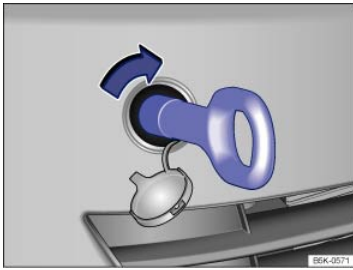

Fig. 171 In the right front bumper: Installing the towing eye.
There is a threaded hole for the towing eye in the right front bumper behind a cover ⇒ Fig. 171.
- Screw the towing eye **clockwise** into the threaded hole as far as it will go (arrow) ⇒ Fig. 171 ⇒ . Use the lug wrench to turn and tighten the towing eye.